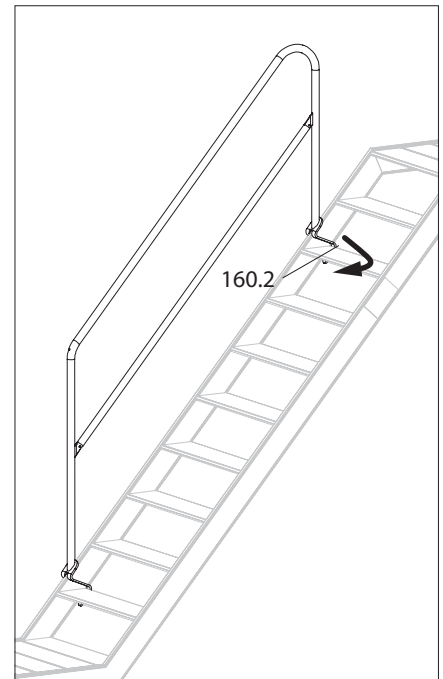

Fig. A8.06b
2. Lower the stair guardrail to the step and pull the mounting rings to the rear edges of the steps (79.2). (Fig. A8.06b)